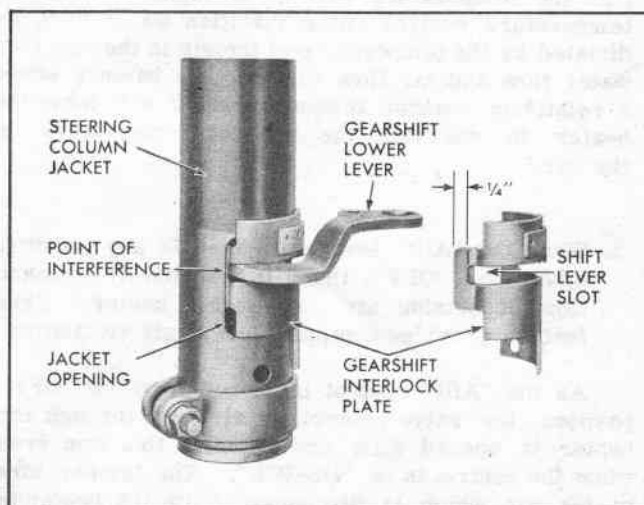
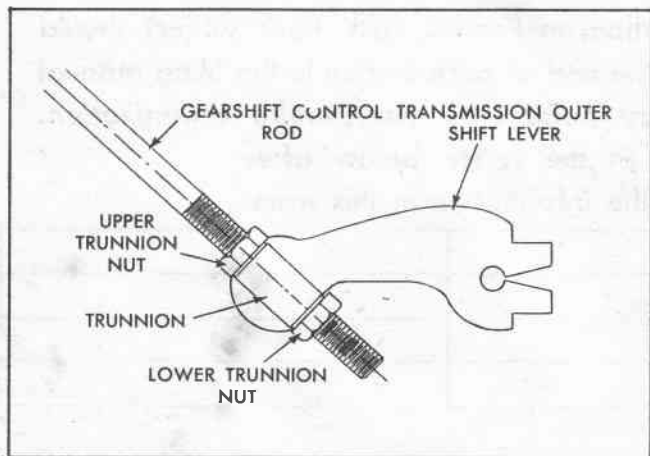

Fig. 14 Gearshift Interlock Plate
Fig. 15 Outer Shift Lever Trunnion Assembly
It is suggested that every 1957 car equipped with a Hydra-Matic transmission be observed when on the lubrication rack, in the mechanic's stall, or in a dealership for service, to determine if the interlock plate shown in Fig. 14 has sufficient travel in the slot. If a car owner complains of bind or drag during Reverse operation, this car should be checked immediately.
1. Examine interlock plate for length of shift lever slot on Reverse end of travel. Slot in plate should extend inside of jacket opening, i.e., the jacket opening should limit the travel (Fig. 14).
2. If the slot length is deficient as determined in paragraph (1), check the linkage for reserve travel of steering column lower shift lever by:
- a. Put upper shift control lever and the transmission lever in Park "P" position and, with the outer transmission shift lever trunnion nuts (Fig. 15) backed off clear of the trunnion, pull the shift rod down toward the transmission as far as possible; and, while holding in this position, run the trunnion upper nut down to just contact the trunnion.
- c. If the upper nut is short of trunnion, proceed as outlined in paragraphs (3), (4), and (5).
- d. If the upper nut is contacting trunnion, count the number of turns the upper nut can be backed off and still contact the trunnion. If less than two turns, proceed as outlined in paragraphs (3), (4), and (5). If more than two turns, screw nut down from the "just contact" position to original or starting position and tighten lower nut. The linkage will then be satisfactory.
3. If the linkage is deficient in travel at reverse position, as determined in paragraph (2), remove the interlock plate (Fig. 14) from steering column jacket and lengthen slot to within at least 1/4" (3/16" allowable) from end of plate (Fig. 14). Reinstall interlock plate.
Lower gearshift lever interlock plates in dealer stock can be reworked for service by increasing slot as shown in Fig. 14.